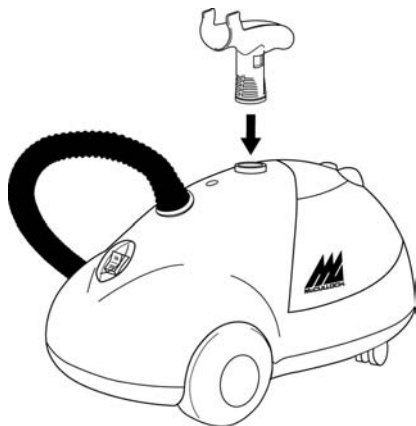

FIGURE 1
1. Insert Carry Handle into Carry Handle hole on top of unit. Please refer to illustration for assistance with proper alignment (FIGURE 1).